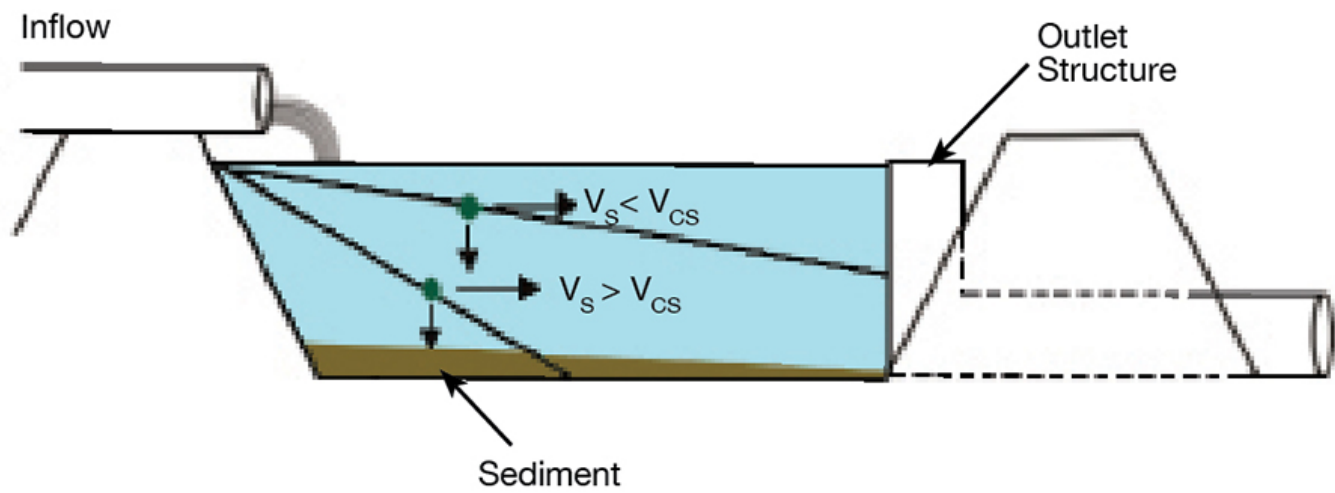

Fig. 1: This basic diagram of a settling basin illustrates the effect of settling velocity on the removal of suspended solids.
To begin with, the inflow and outflow of a settling basin are roughly equal. The length of time that a water molecule remains in a settling basin – the hydraulic residence time (HRT) – can be estimated by dividing basin volume (V) by inflow rate (Q). Gravity acts on suspended particles, and under quiescent conditions in a settling basin, the fraction of the particles that have a settling time equal to or less than the HRT are retained in the basin (Fig. 1).
The critical settling velocity (Vcs) is the minimum velocity at which a particle can settle and yet be removed (Fig. 1). This velocity can be determined by dividing the mean depth of the settling basin (D) by HRT: